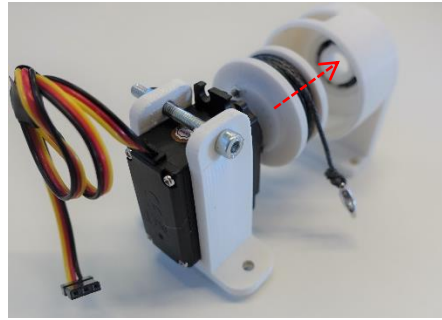

Figure 10: Servo and spool about to be pressed into the bearing placed in the spool holder. Arrow indicates direction of assembly.
6. Press the front part of the spool into the inner ring of the bearing as shown in Figure 10. Guide the carbine through the hole of the spool holder.